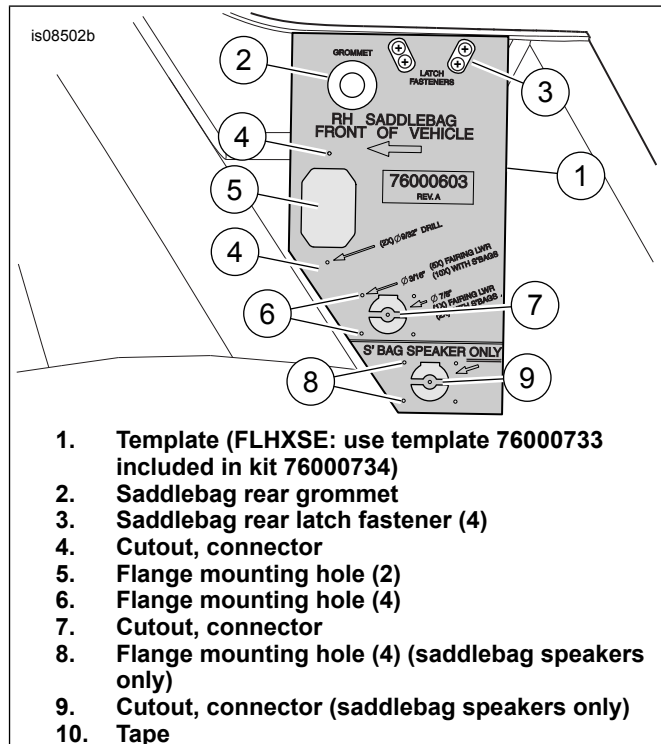

Figure 2. Right Saddlebag Cutout and Drilling For Stage II Harness Installation
2. See Figure 2. Place the saddlebag on a protected surface with the mounting (inboard) side facing up.
1. See Figure 2 Use the template (1) to cut the openings in the saddlebag for the **fairing lower** amplifier 18-way flanged connector [289-1].
- b. Place the template on the saddlebag. Align the grommet (2) and latch fastener (3) openings. Use tape (10) to secure the template in place.
- d. Trace the cut outline (4) onto the saddlebag. Trace the cut outline (7) onto the saddlebag.
- e. Drill two 9/32 in holes (5) for the connector flange mounting locations. Drill five 3/16 in holes (6) for the connector flange mounting locations.
See Figure 2, Items 6 and 7.